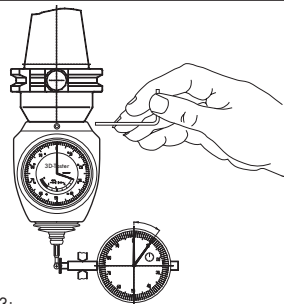

Fig. 2.3:
3. Loosen all 4 concentricity setting screws (hexagon socket key, 2 mm, fig. 2.3)
6. Turn sensor such that the two setting screws that are opposite each other are located in the measuring direction of the testing gauge. Bring the pointer of the testing gauge to 0 (Fig. 2.3) with these two setting screws and the attached key.